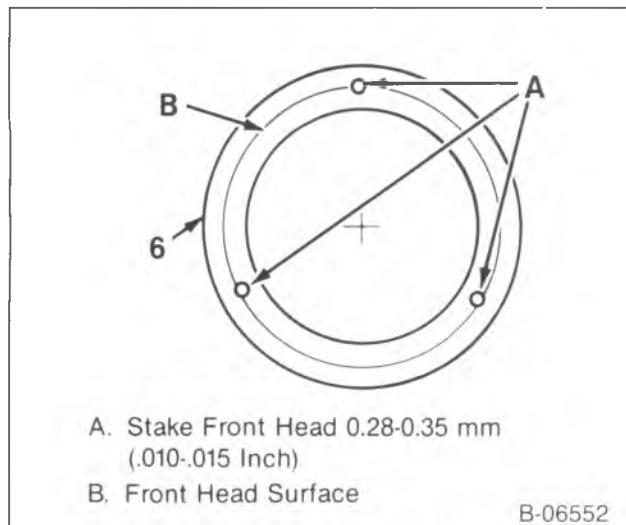

Figure 20—Clutch Coil Staking Locations
- Stake size should be one half the area of the punch tip and 0.28-0.35 mm (0.010-0.015-inch) deep (figure 20).
2. Pulley (24).
3. Clutch plate and hub assembly (22).